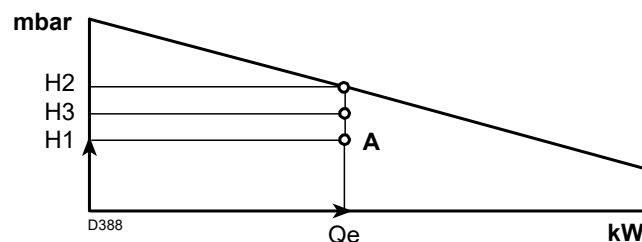

Fig. 4
- 4 Trace a vertical line from **point A** (Fig. 4), and find the maximum pressure "**H2**" of the firing rate.
- If "**H3**" is greater than "**H1**" (Fig. 4), the burner can supply the required output.